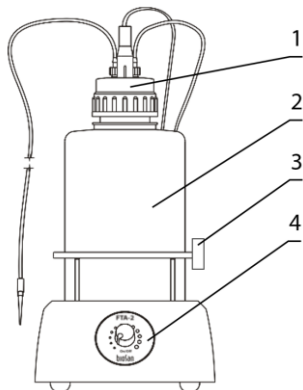
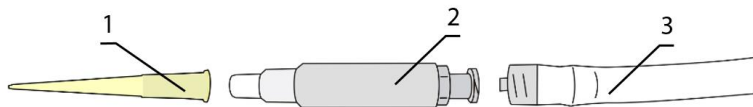
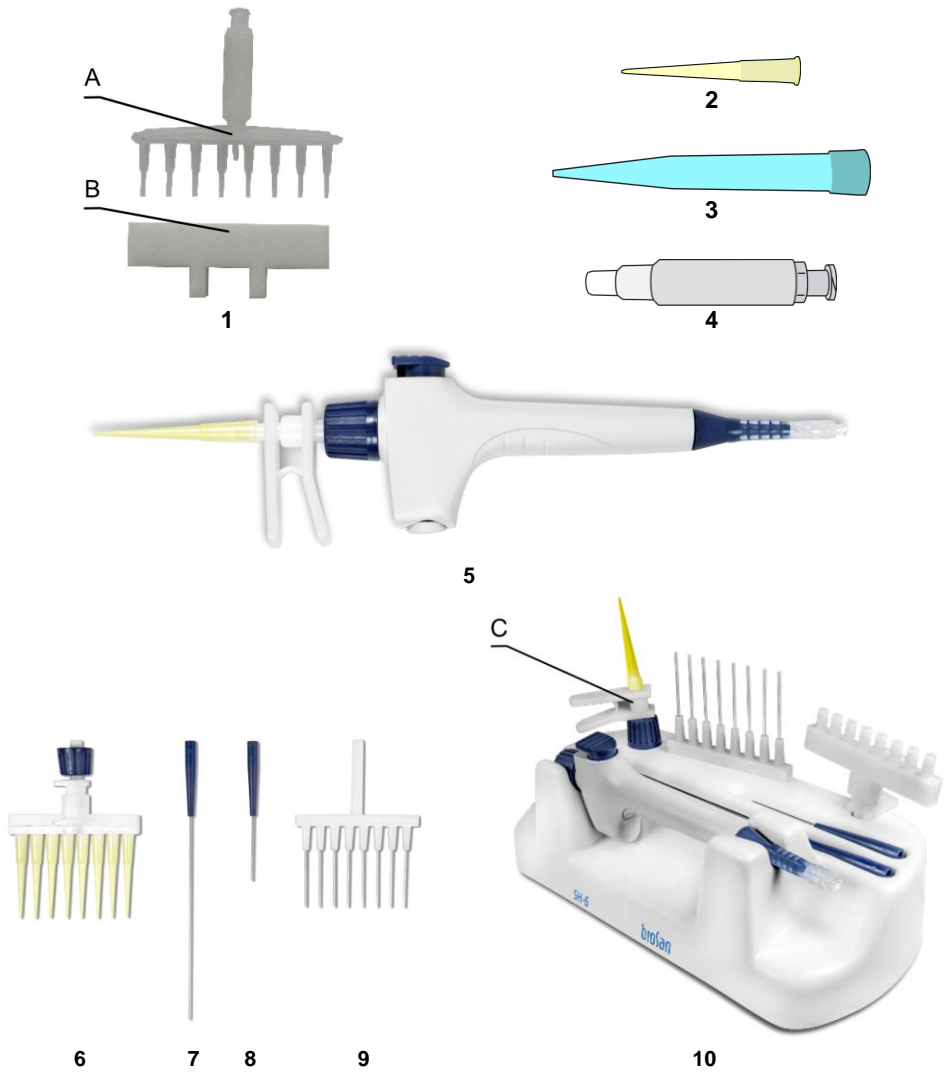

Figure 3. FTA-2i front view.
Figure 5. MA-U, universal adapter.
Figure 8. Optional accessories and replacement parts
- Install the trapping flask (fig. 3/2) on the unit.
- Screw on the lid with the sensor needles and valves for tubing (fig. 3/1) to trapping flask.
- Assemble the **MA-U** aspiration tip set (figure 5).
- Place the microtubes for aspiration tip into the holder (fig. 3/3).
- 4.4.1 **Optional MA-8 aspiration tip installation.** Remove microtubes and aspiration tip from the holder (fig. 3/3). Remove the aspiration tip (fig. 5/1) from the **MA-U** adapter and connect the **MA-8** aspiration tip (fig. 8/1A).
- 4.4.2 **Optional HAS-1 hand operator installation.** Unscrew the **MA-U** adapter from the aspiration tube (fig. 5/3) and connect the **HAS-1** hand operator (fig. 8/5) by screwing it to the fitting.
- 5.3 (For model **FTA-2i**) Regulate the aspiration intensity with the regulator knob on the front panel of the unit (fig. 3/4). Clockwise turning direction increases power, counter clockwise – decreases. Current intensity is indicated by a light ring around the regulator knob.
- 5.4 Touch the surface of the liquid with the aspiration tip (fig. 2, fig. 5/1 or **MA-8**) to remove the liquid.
MA-8 , 8-channel aspiration tip (fig. 8/1A) with holder (fig. 8/1B)	BS-040108-BK
HAS-1 , hand operator set (only for FTA-2i ). Set includes: Handheld vacuum controller with adapter (fig. 8/5), 8-channel adapter (with ejector) for 200 µL tips (fig. 8/6), 1-channel adapter with 125 mm stainless steel pin (fig. 8/7), 1-channel adapter with 40 mm stainless steel pin (fig. 8/8), 8-channel adapter with 35 mm stainless steel pin (fig. 8/9), 1-channel adapter (with ejector) for 200 µL tips (fig. 8/10C), Stand SH-6 for hand operator parts (fig. 8/10)	BS-040118-PK
Aspiration tip, 200 µL, 1000 pcs. (fig. 8/2)	BS-000001-S04
Aspiration tip, 8 channels, for MA-8 (fig. 8/1A)	BS-040108-S24
MA-U , universal adapter for 200/1000 µL single use tips (fig. 8/4)	BS-040118-AK
Aspiration tip, 1000 µL, 1000 pcs. (fig. 8/3)	BS-000001-S05